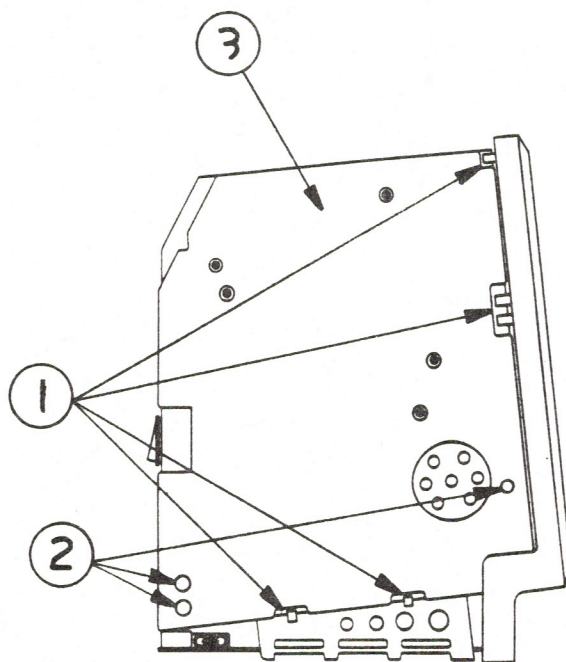

FIGURE 7
4. Slide the board into the slotted holders (Figure 7, #1) so that the three screw holes line up with the holes on the chassis (Figure 7, #2).
7. Replace the three screws and washers (Figure 7, #2). If replacement screws are needed, refer to Section 6, Additional Procedures.
8. Replace the insulating paper if it has been removed (Figure 7, #3).